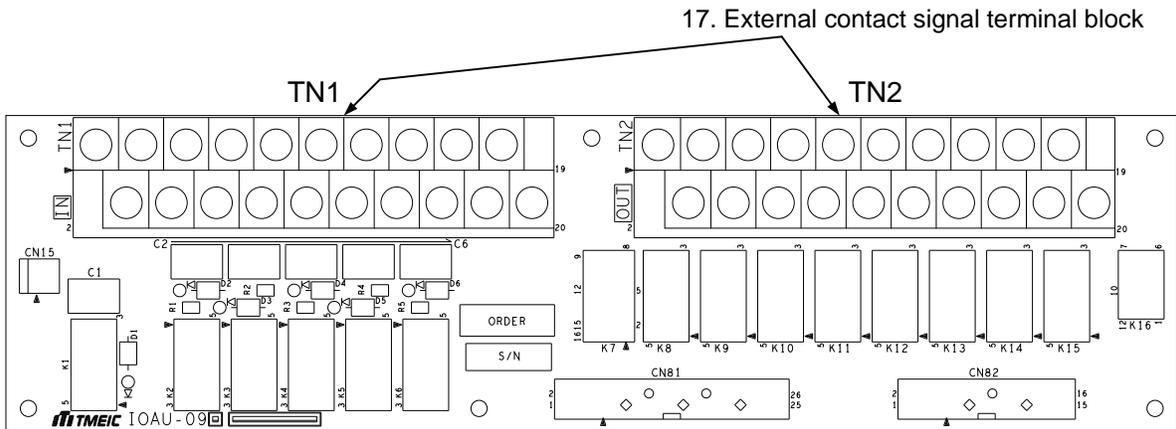
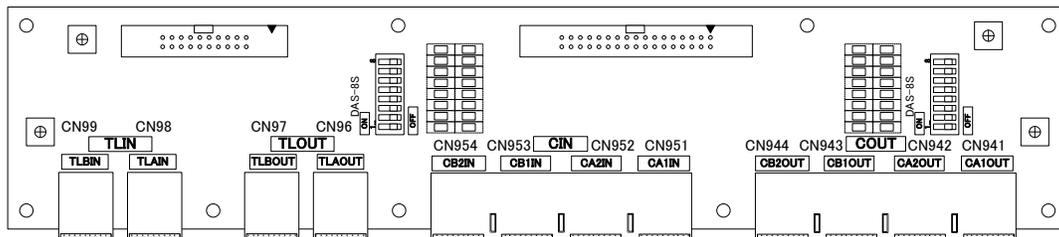

Figure 3-9 External I/F PCB IOAU-09
Figure 3-10 Parallel I/F PCB IFAU-09
3. External I/F PCB IOAU-09 (Figure 3-9):
For use in Parallel Operation system application (Option - Figure 3-9 and Figure 3-10)